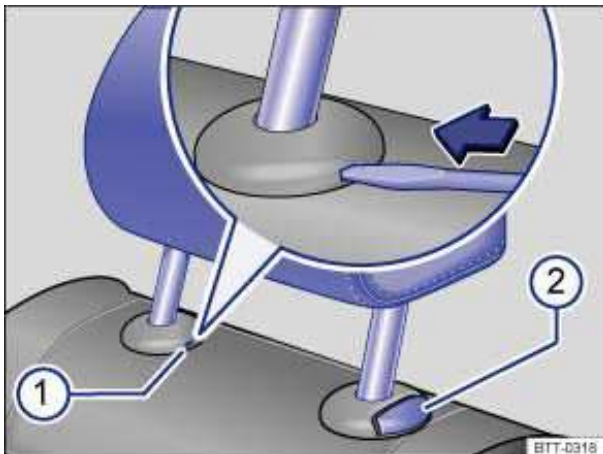

Fig. 39 Removing the rear head restraints.
- If necessary, press the flat blade of the screwdriver from the vehicle tool kit into the slit of the trim cap ⇒ fig. 39 \(1\) in the direction of the arrow and hold it in this position.